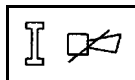

Fig. 97
- Keep the joystick deflected whilst you press and hold button S3 (**Fig. 97**).